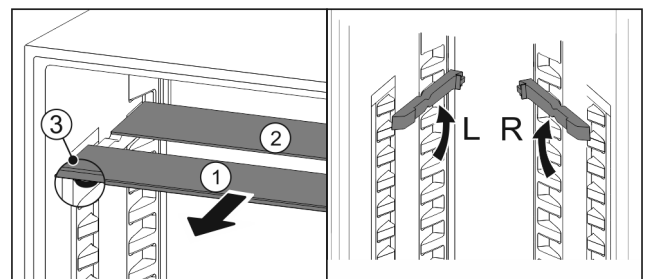

Fig. 127
- Pull the glass panels out Fig. 127 (1) from the front, one at a time.
- ▷ The glass panel Fig. 127 (1) and trim strip are at the front.
- ▷ The stops Fig. 127 (3) point down.